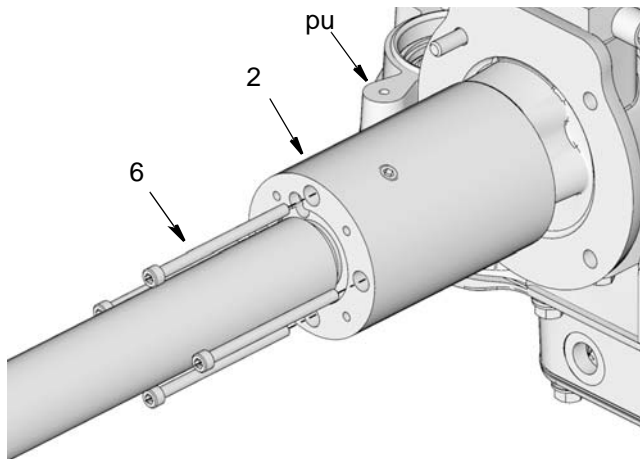

FIG. 48
24. Secure pump adapter (2) to pump upper (pu) using screws (6). Use a socket to tighten screws securely (FIG. 48). Torque to 7-9 ft lbs (9-12 N.m).